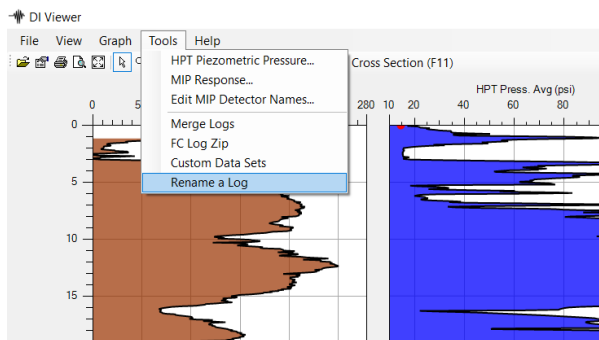

Figure 42: Pathway to Renaming a Log
1. From the “Tools” menu select “Renaming a Log” (Fig. 42).